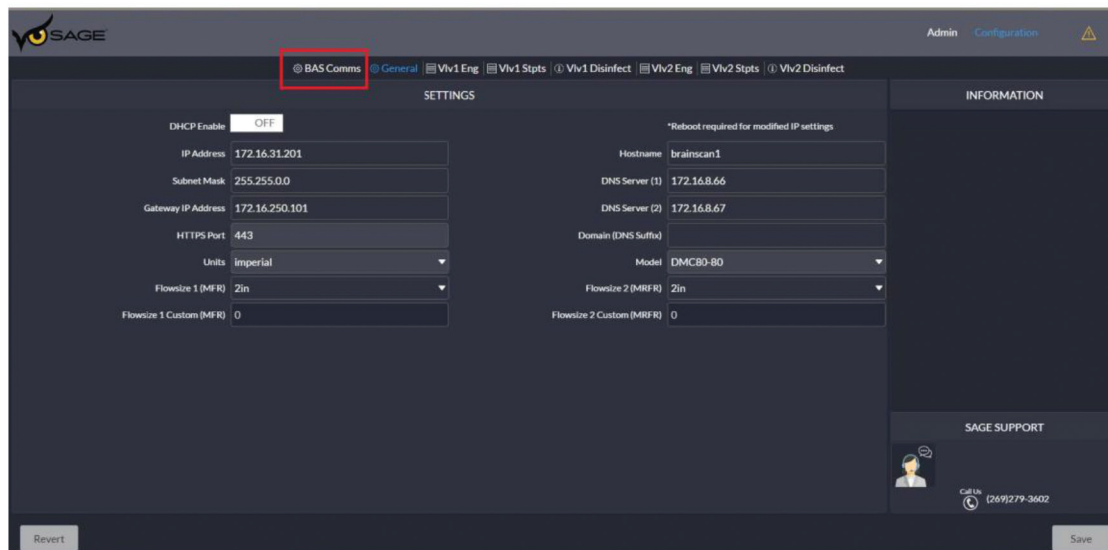

Figure 2: Initial System Graphic Page
4. Right mouse click your network adapter and then click “Properties” (**see Figure 2**).